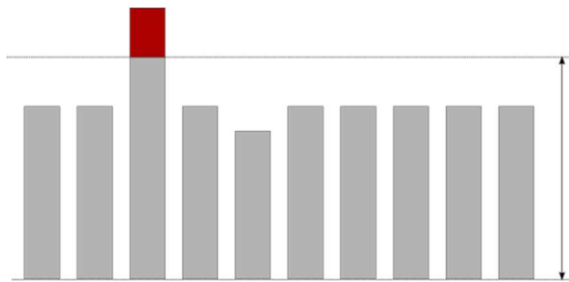

Figure 8: active balancing type 1
- Active balancing type 1 (see Figure 8: active balancing type 1): Exceeding the maximum value of a cell voltage. The portion marked in red is unloaded by the balancing.